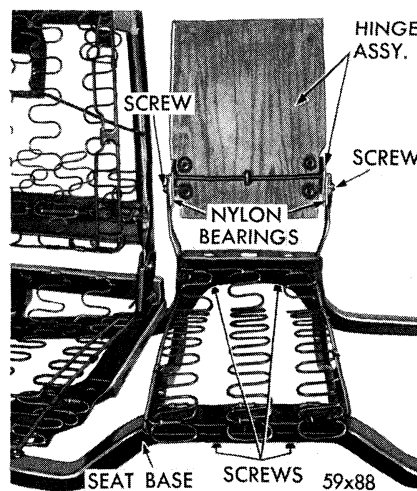

Fig. 124 — Swivel Seat Arm Rest Assembly
**ARM REST HINGE ASSEMBLY (FIG. 124)**
**ARM REST ASSEMBLY (FIG. 124)**